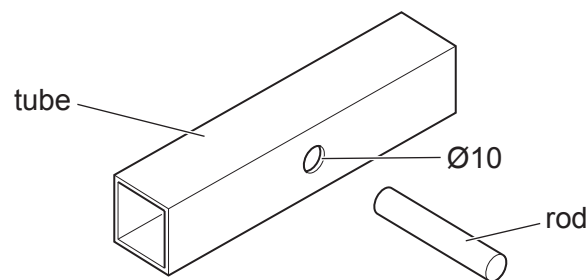

Fig. 8.1
- 8 Fig. 8.1 shows a length of 20 × 20 square tube and a length of Ø10 rod.